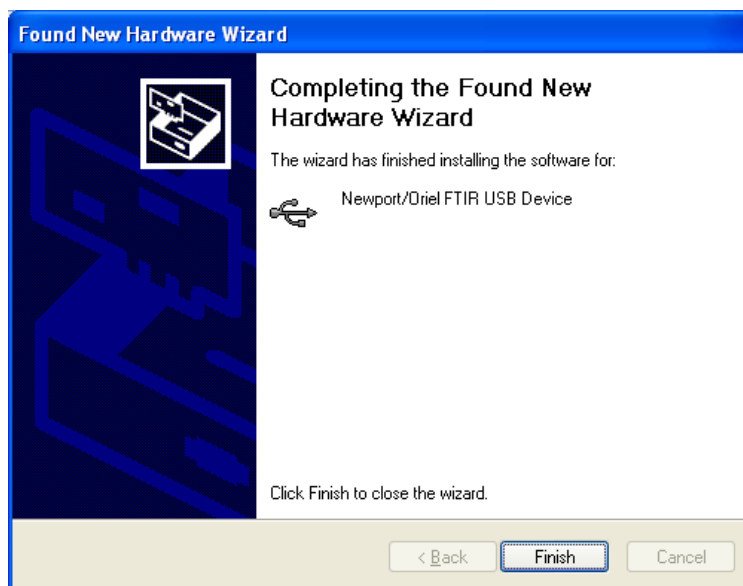

Figure 32: Instrument Driver Installation Complete
8. Upon completion, the screen shown in Figure 32 will appear. Click “Finish”. If successful, the instrument will now appear in the Windows Device Manager under USB Devices.